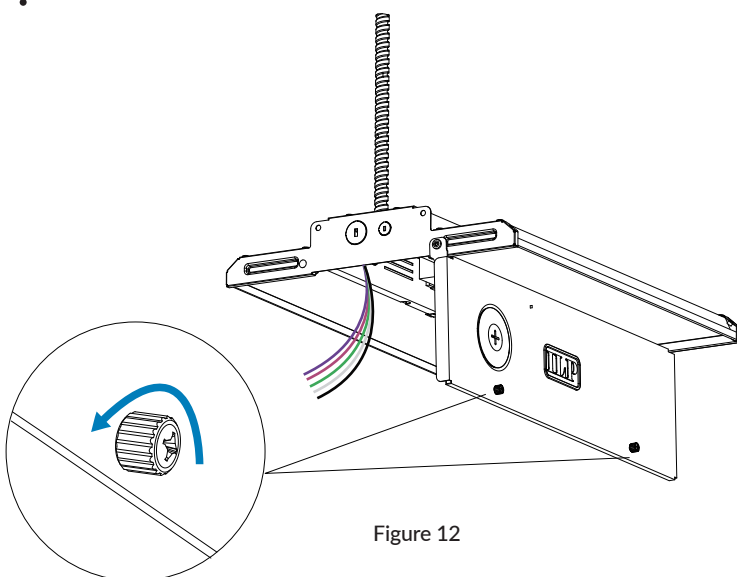

Figure 12
- From the front side, open driver cover door shut to make wiring connections. Connect the LED high bay wiring to line wire, black to black, white to white, and green to ground wire; secure each connection with wire nuts. Purple & pink leads inside the driver compartment are 0-10V (low voltage) dimming leads, connect to incoming dimming low voltage wiring when controlling luminaire light levels via external signal. . (Figure 12)